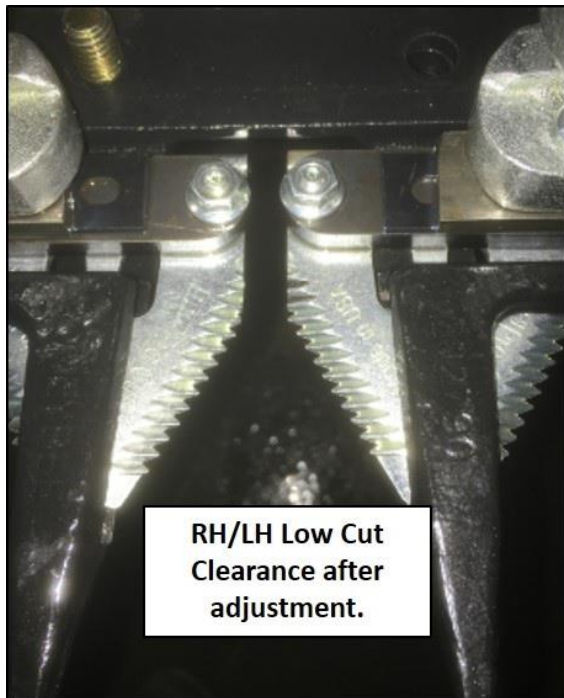

Figure 3
- e. This timing procedure will give $\frac{1}{4}$ " clearance between the ends of the SDX knives. With the knives running at full speed this gap reduces to approximately $\frac{1}{8}$ " clearance. Figure 3